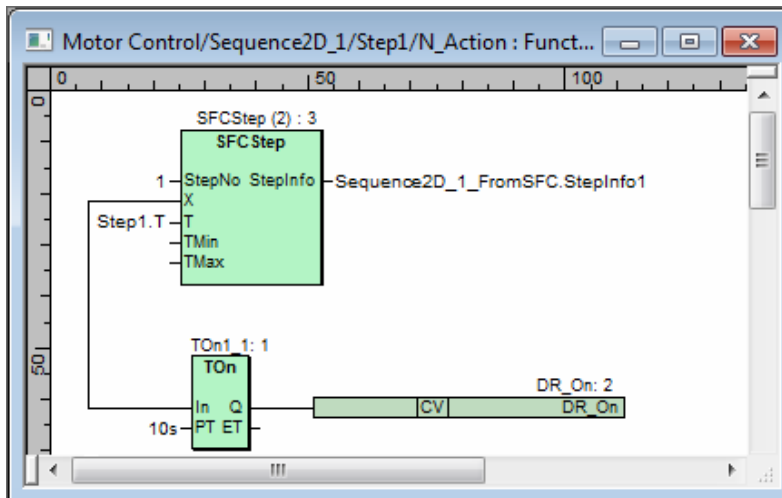

Figure 44. Configuration of Timer
- f. Configure the following for **TOn** as shown in Figure 44: